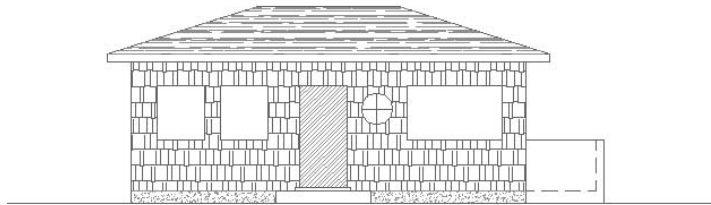

FIGURE 9.8: The hatching of the front wall is complete.
- E. Right-click, choose Preview, and then right-click again.The wall is hatched (see Figure 9.8).